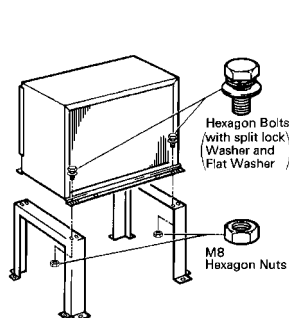

Fig. 9
- 3) Install enough length of two copper tubings provided with Aeroquip couplings between the icemaker and the condenser unit. The two copper tubings should be insulated separately. See Fig. 9.